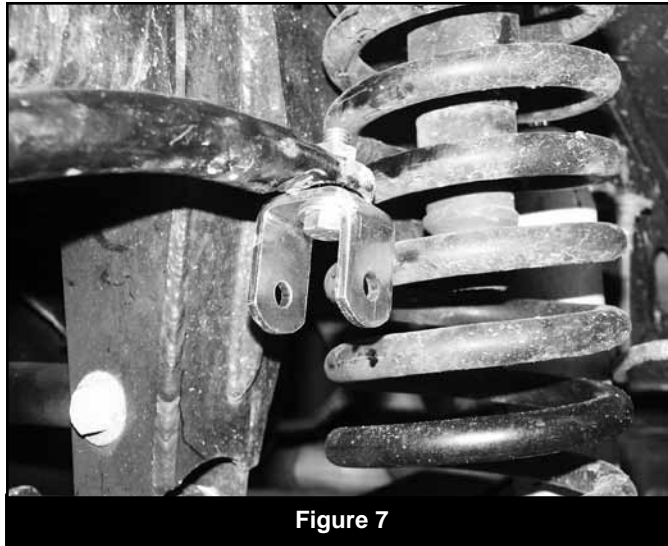

Figure 7
30. Install the provided upper u-bracket (01325) to the sway bar using the original link mounting hole with a 7/16" x 1-1/2" bolt, nut, 7/16" SAE and 7/16" USS washers. Install the bolt up through the u-bracket with an SAE washer into the sway bar. Fasten with the nut and USS washer. Position the bracket so that the thru-holes are parallel to the stud on the axle (Fig 7).